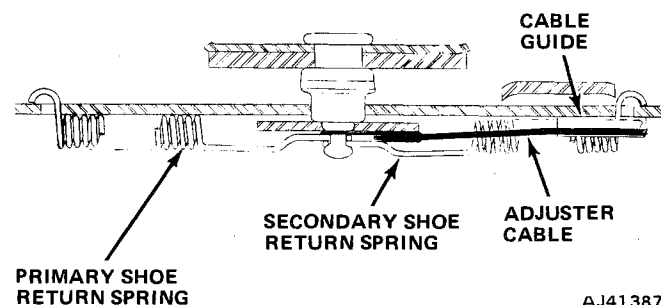

Fig. 2G-24 Return Spring Installation
(4) Install parking brake cable in lever and install parking brake strut and positioning spring.
(5) Place adjuster cable eyelet on anchor pin.
(6) Install primary return spring (fig. 2G-24).
(7) Install cable guide on secondary brakeshoe.
(8) Install secondary return spring (fig. 2G-24).
(9) Install adjusting screw and spring on brakeshoes. Insert small hooked end of spring in large hole in primary brakeshoe and large hooked end of spring in adjuster lever.
(10) Position adjuster cable in cable guide groove insert hooked end of cable in adjuster lever.
(11) Grip adjuster lever with pliers and hook lever tang in large hole at bottom of secondary brakeshoe.